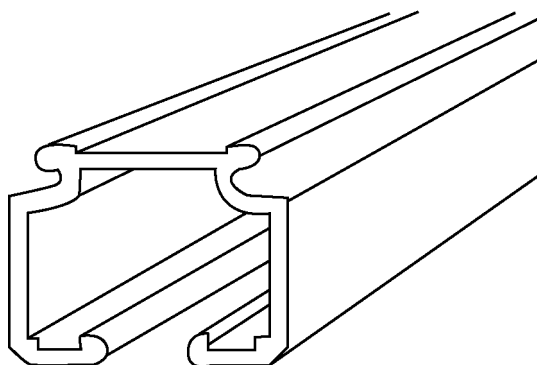

Fig. 4
- 5 **Figure 4** shows a curtain rail made of plastic.